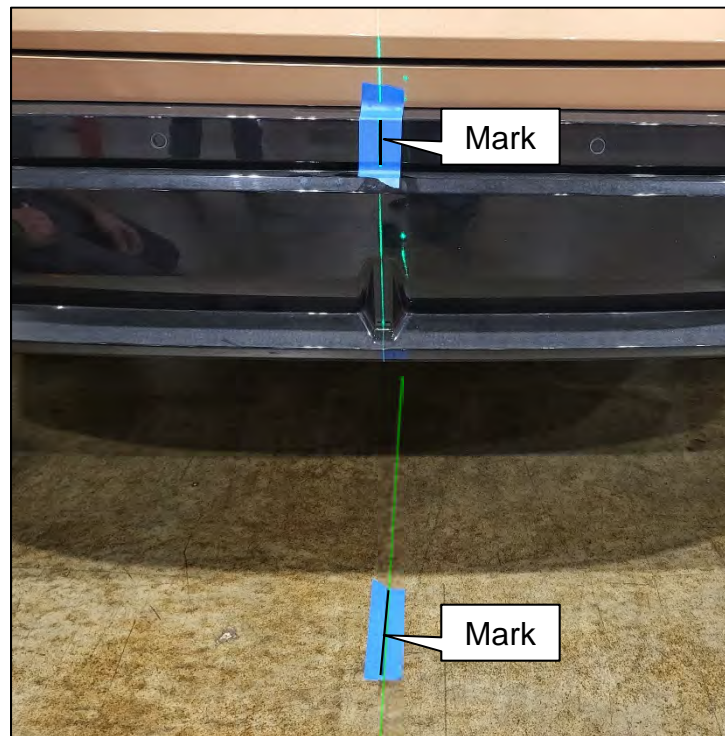

Figure 69
47. Mark the rear fascia, where shown in Figure 69, and the floor near the rear fascia.